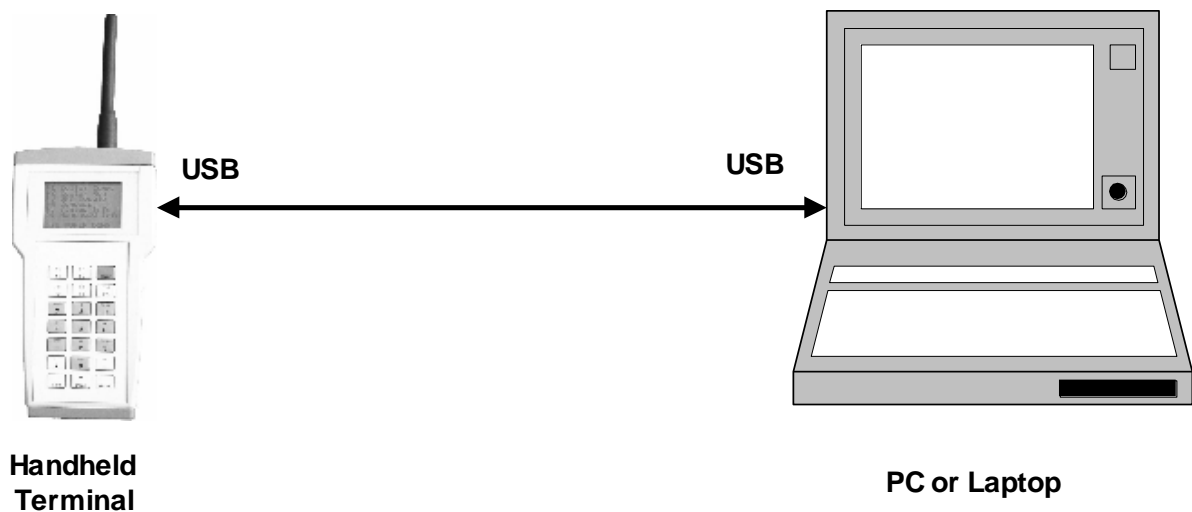

Figure 3: USB connection between Handheld Terminal and the PC / Laptop
2. Connect the Handheld Terminal to PC with a standard USB cable (Figure 3).